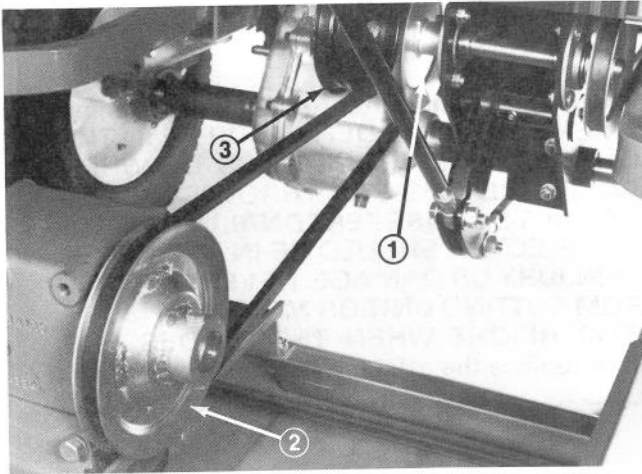

Figure 4
- Route V-belt around jackshaft pulley and gear box pulley (Fig. 4).
3. Raise idler pulley and position over upper portion of belt (Fig. 4).